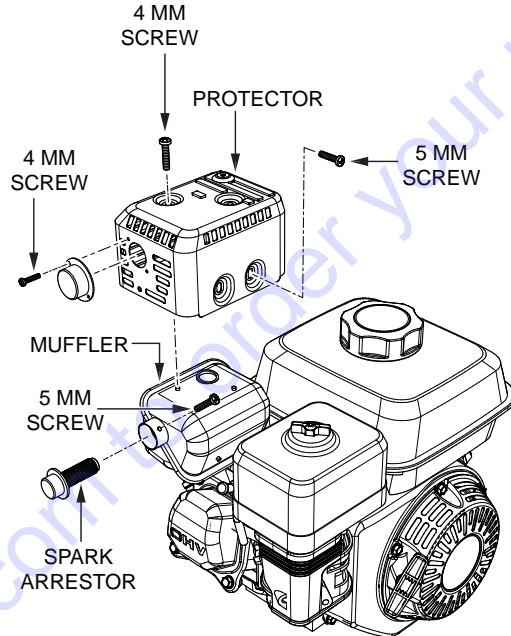

Figure 37. Spark Arrester
1. Remove the 4 mm screw (3) from the exhaust deflector (Figure 37), then remove the deflector.